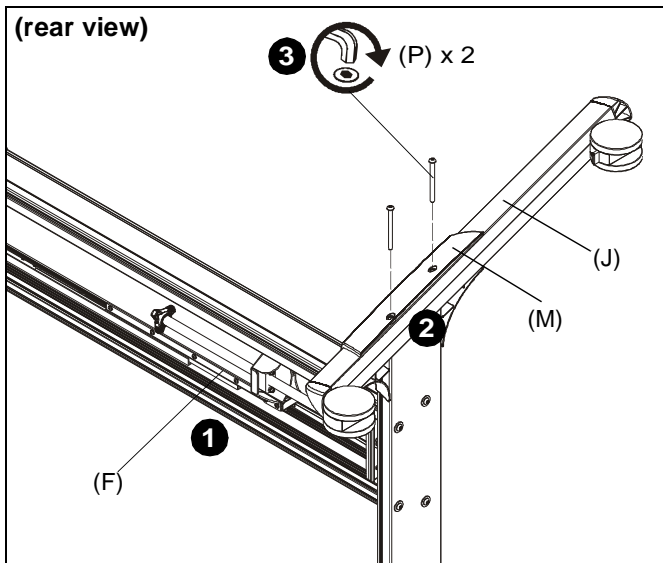

Figure 1
1. Carefully set column assembly (F) on its left side. (See Figure 1)
2. Place right transition cover (M) on right cart leg (J), lining up the holes on the cover with the holes on the leg and column assembly base. (See Figure 1)
3. Use two 5/16-18 x 3 3/4" button head cap screws (P) to secure leg (J) and cover (M) to column assembly (F). (See Figure 1)